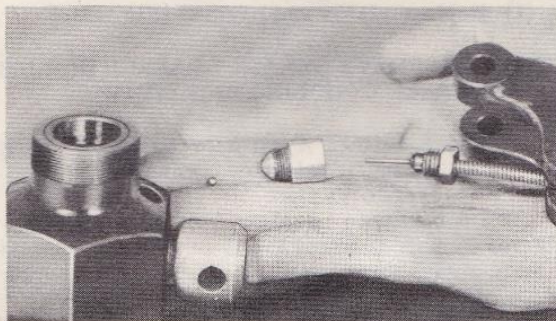

Figure 7 - Release Valve Disassembled
(1) Clean grease fitting with cloth and attach hose coupling to fitting.
(2) Check the operation of the latch by opening the cover and operating the handle with the latch lever in operating position. If a flow of lubricant is noted along the side of the tube (A" Fig. 6) the release valve is not closing. In this case disassemble as shown in figure 7. Clean the ball and seat with solvent. Reassemble latch. (Model 6521 has no release valve ball - clean seat only.)